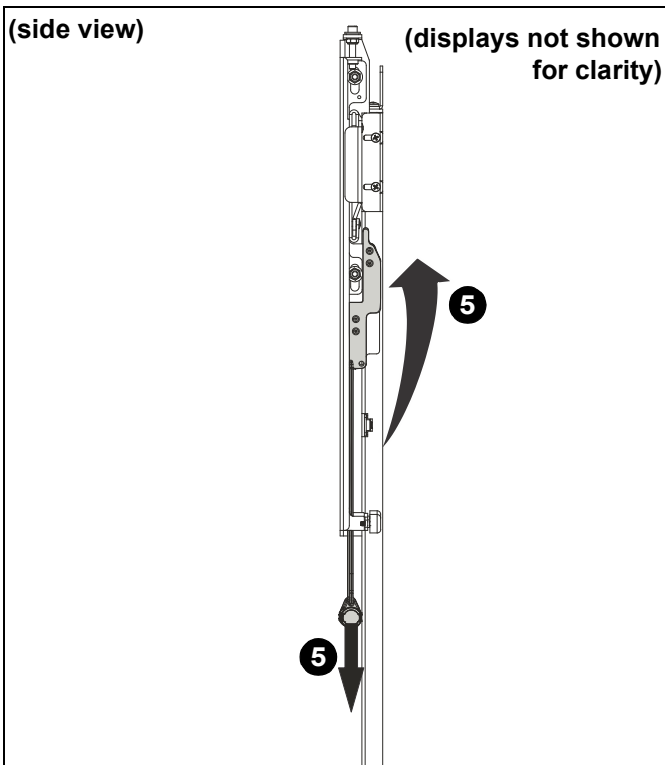

Figure 13
5. Pull down cords on uprights to maneuver lower part of upright under cross bracket (A). (See Figure 13)